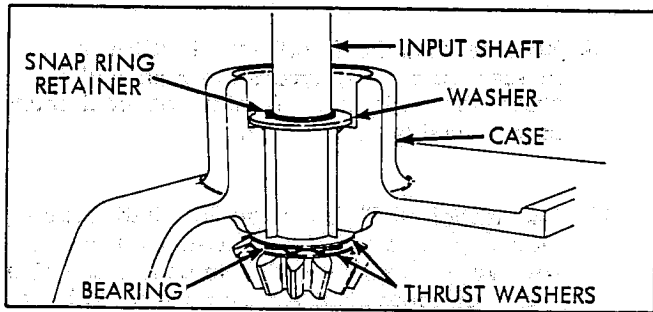

Figure 3-13
- (a) Install thrust washers and bearing on input shaft. Note sequence, Figure 3-13.